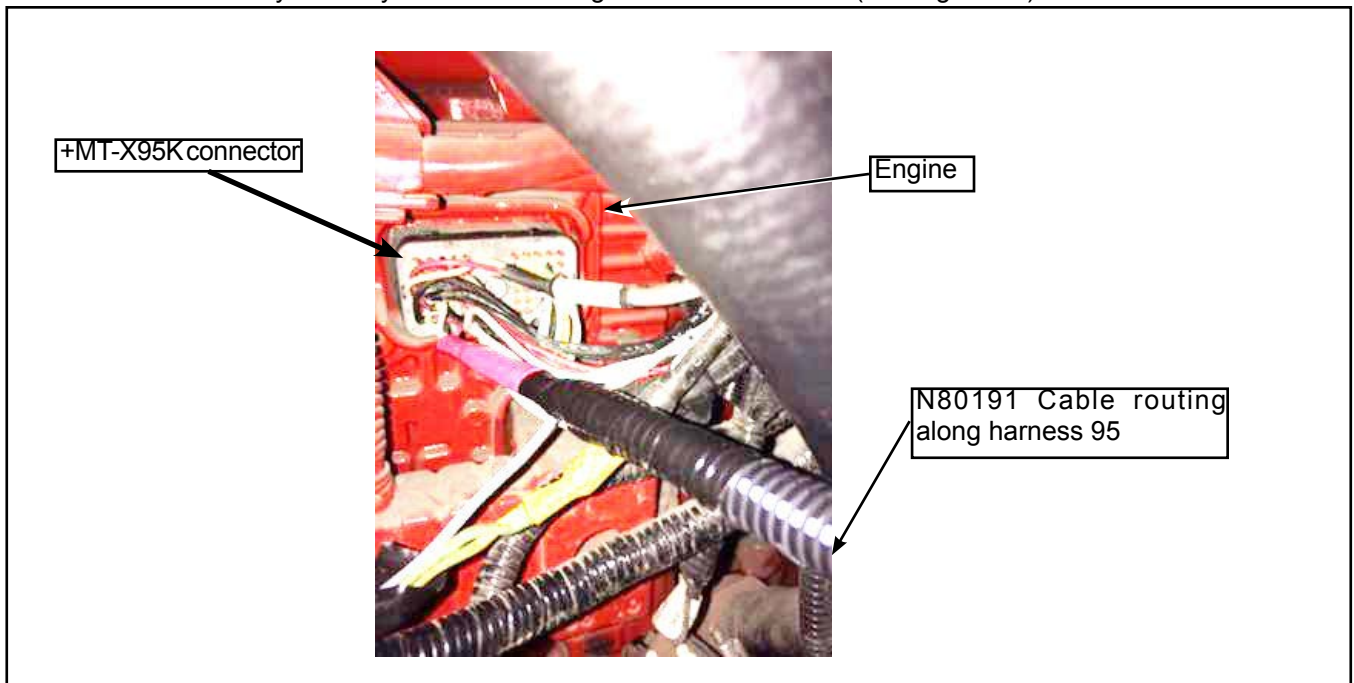

Figure 10 - Cable Routing Along Harness 95
1.11. Cable routing towards the +MT-X95K connector on the engine, remove the connector from the engine using a 4mm Allen key to easily access the wiring that will be modified (see Figure 10).